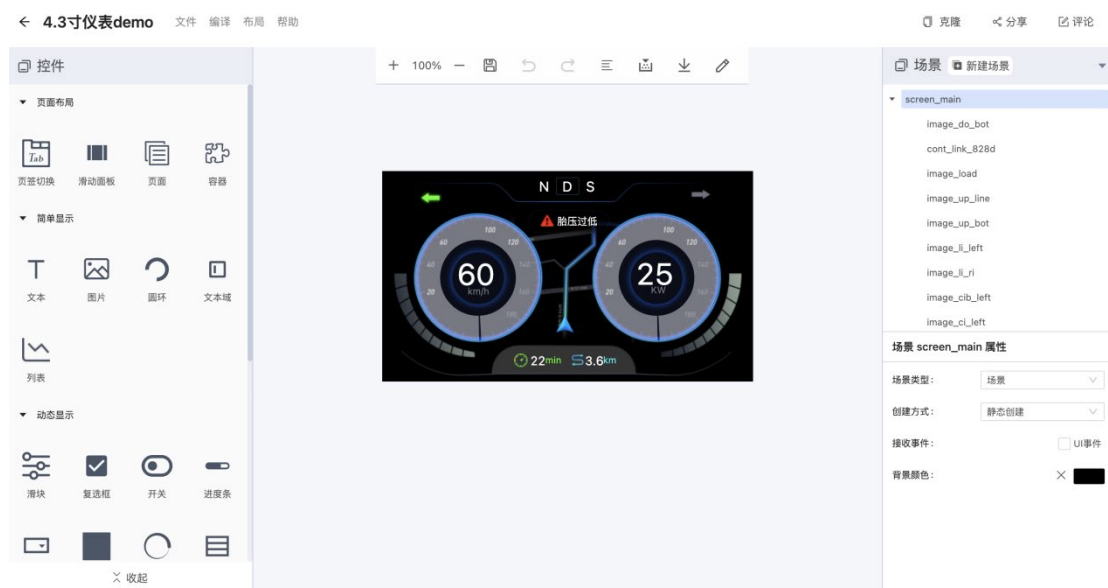

Fig.5
1. Prepare the firmware: target_v3.0.bin, Wifi please set up according to the following description: wifi name: linksys2.4G wifi password: 8888888888, The hardware will automatically recognize and connect to WIFI after you turn on the device and burn the firmware (Fig.5).
(Fig.5)